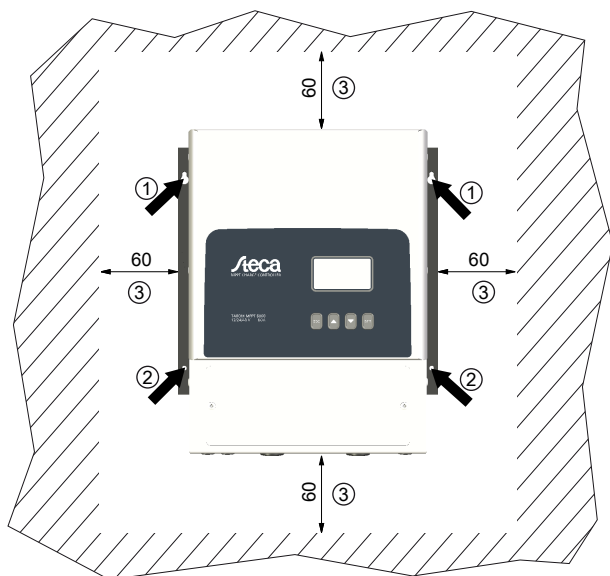

Fig. 2: Fastening openings ①/② and free space ③
- A free space of at least 60 mm must be present on all sides of the controller (③ in Fig. 2, p. 15).
- Do not drill through the fastening openings ①/② (Fig. 2).
2.  Position the controller level on the mounting surface and mark the mounting holes through the fastening openings ①/②.